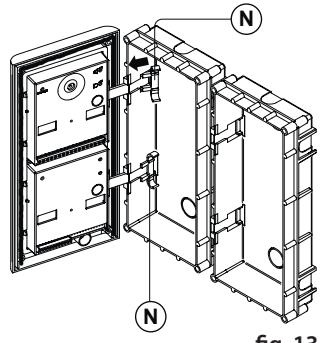

fig. 13
2. Continue from step 4 of surface mounting instructions , but at step 7 hook the hinge locks **N** as shown on **Fig. 13**.